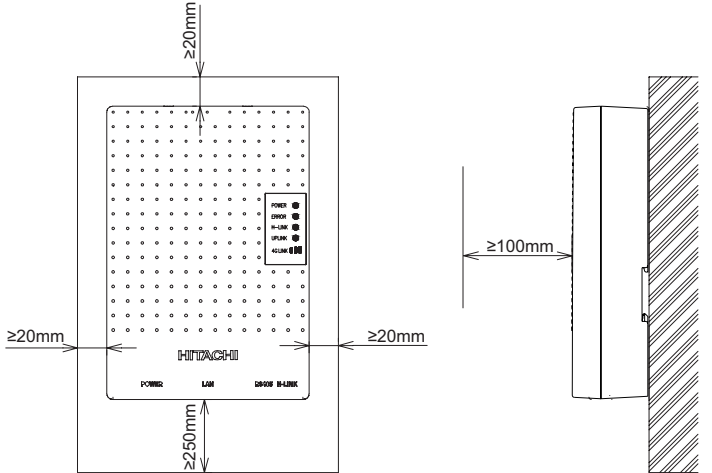

Figure 3.1 Installation Location
(1) Secure enough space as illustrated in Figure 3.1.